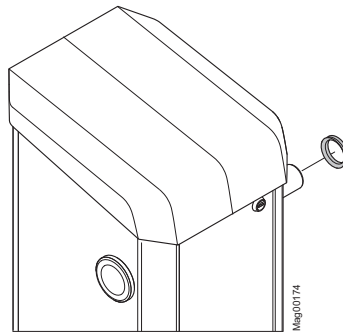

Fig. 33: Remove the v-ring
16. Slip the v-ring over the flange shaft. The sealing lip points towards the barrier housing. → See page 70, Fig. 33.